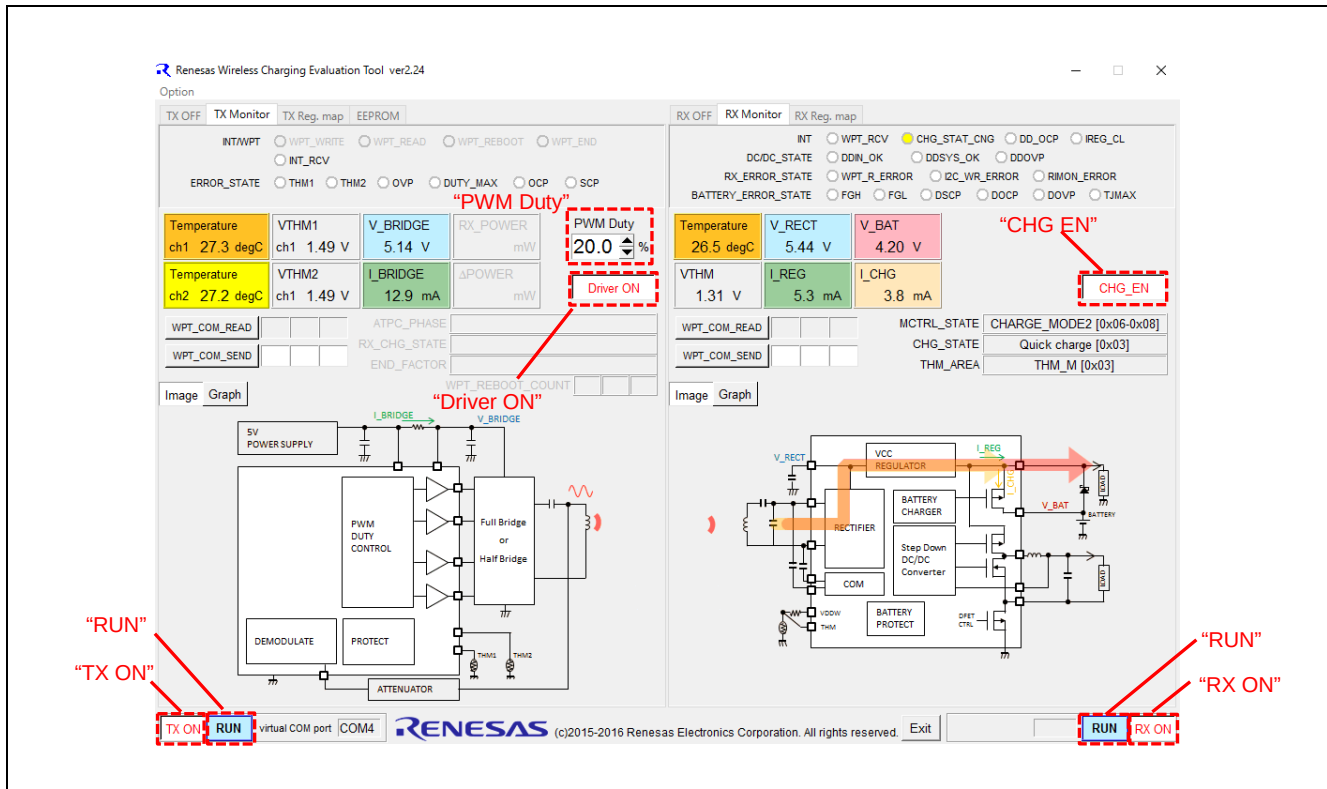

Figure 22 Control tool window in MCU Control Mode
- (1) Turn on the SW13 of RX board. LED5 is lightened for showing availability of Wireless Power Transfer from TX board. DCDC (LED3) is also lightened for showing DCDC converter operation.
- (2) Turn on the SW14 of TX board. DC 5V is supplied to TX board.
- (3) Click the “TX ON” and the “RX ON” on tool window. Monitor for evaluation is displayed as Figure 22.